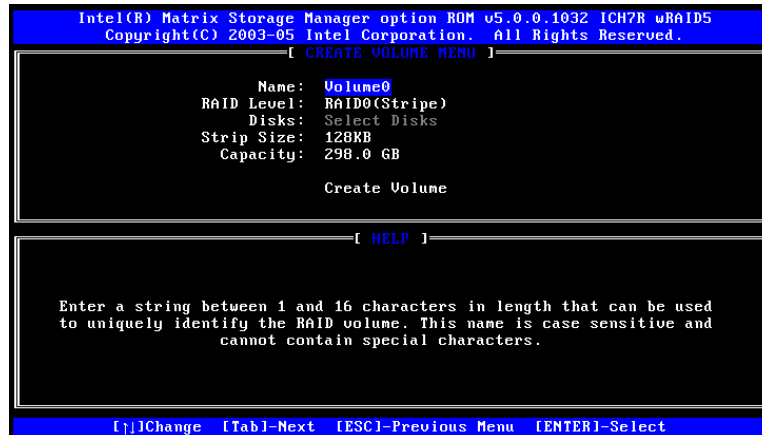

Figure G-2: Create RAID Volume Name
Step 2: **Name the RAID volume.** Enter a name for the RAID volume, or press **ENTER** to accept the default volume name. Upper and lower case alphabetic, numeric, space, and underscore characters are all applicable for naming an array. See **Figure G-2.**